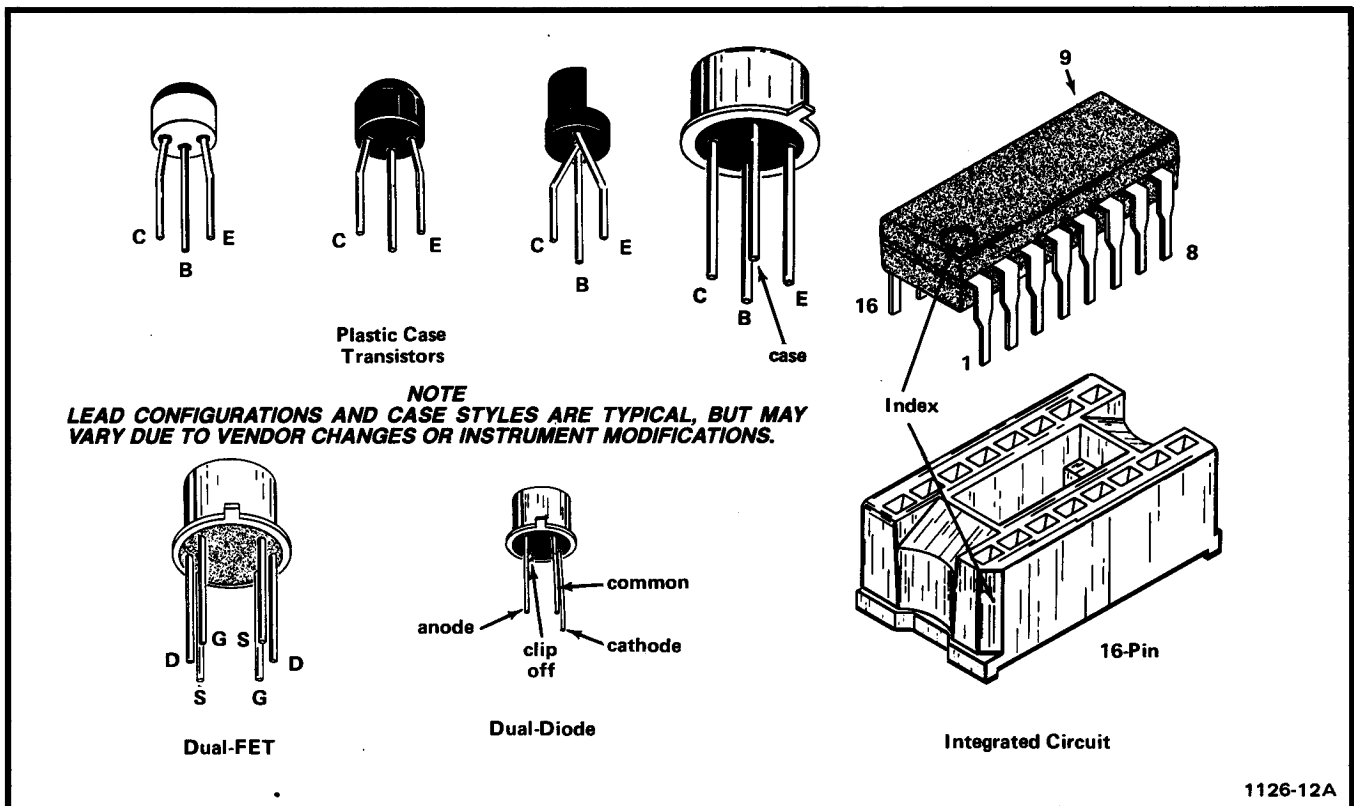

Fig. 5-1. Electrode configuration for semiconductors used in this instrument.
**Semiconductor Lead Configuration.** Figure 5-1 shows the lead configuration of the semiconductor devices used in this instrument.
A. **TRANSISTORS AND INTEGRATED CIRCUITS.** The best check of transistor and integrated circuit operation is actual performance under operating conditions. If a transistor or integrated circuit is suspected of being defective, it can best be checked by substituting a component known to be good; however, be sure that circuit conditions are not such that a replacement might also be damaged. If substitute transistors are not available, use a dynamic tester (such as TEKTRONIX 576). Static-type testers may be used, but since they do not check operation under simulated operating conditions some defects may go unnoticed. Figure 5-1 shows base pin and socket arrangements of semiconductor devices. Be sure the power is off before attempting to remove or replace any transistor or integrated circuit.